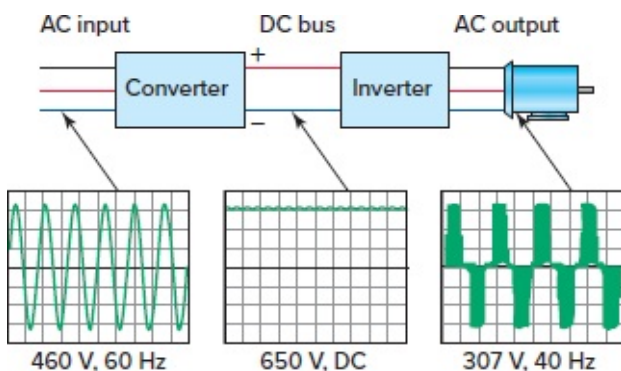

Figure 10-5 Typical VFD voltage measurements.
- With a 460 V AC input, you should read an average DC bus voltage of about 650 to 680 V DC, as illustrated in Figure 10-5.